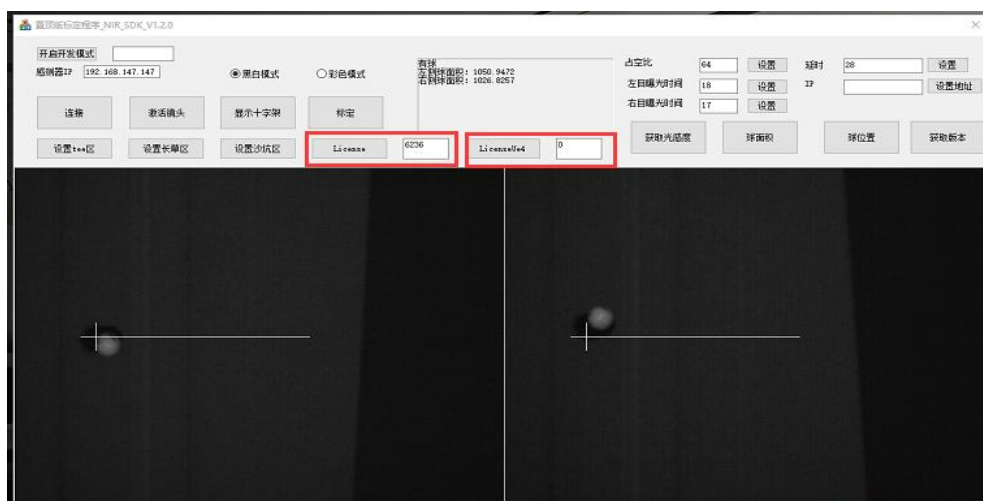

Figure 2
4.1.2. Open the calibration program, and the License will be displayed in the calibration program. Enter the sensor IP number (factory default is 192.168.1.147) and click the "Connect" button. The status window will display "Connected Sensor". Click "② Activate the camera". After it is successfully activated, the left and right images will be displayed (Figure 2).